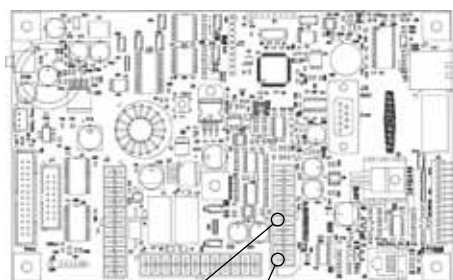

Figure 20: Blower Test Points on Control Board
2. While pin 5 is grounded, check the terminals on the control wiring plug for 0-10 VDC across pins 1 and 2 of the J1 connector (Figure 20) while increasing the blower speed. The measurement should increase appx. 1 VDC for each 10% increase in blower speed, up to 100% (10 VDC), which is approximately 7000 RPM.